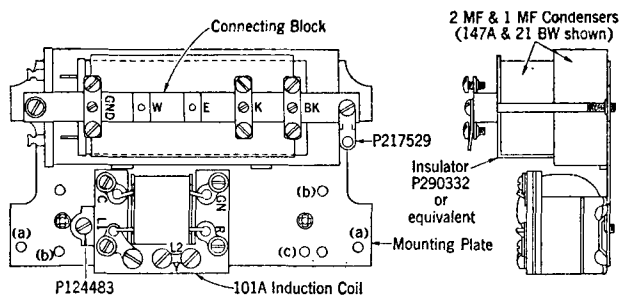
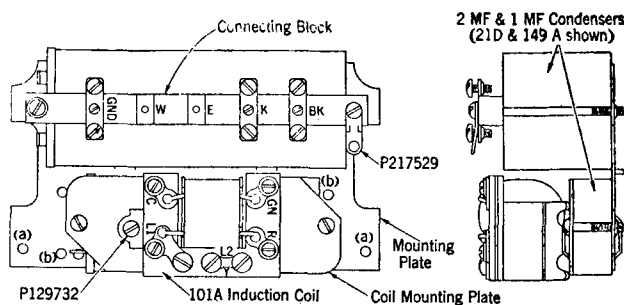

Fig. 1—Apparatus Unit Assembly (a)
Fig. 2—Apparatus Unit Assembly (b)
2.01 The D-158595 Apparatus Unit is an assembly of an anti-sidetone induction coil, two condensers and a connecting block on a mounting plate and may be (a) the assembly shown in Fig. 1 or (b) the assembly shown in Fig. 2 depending upon local supply conditions. The hole marked (c) is for mounting a special bracket for a vacuum tube and may be disregarded except when the bracket is furnished locally.
having a two-piece base this can be done simply by disconnecting the ringer and removing the two screws that fasten the plate on which the induction coil, condensers, etc., are mounted. Attach the D-158595 Apparatus Unit with the two P-142036 screws furnished with it. For sets having a two-piece base, place mounting screws in holes marked (a) in Fig. 1 or 2. In all other sets use the two diagonally opposite holes marked (b) which line up with the threaded holes in the base that were previously used to mount the induction coil.